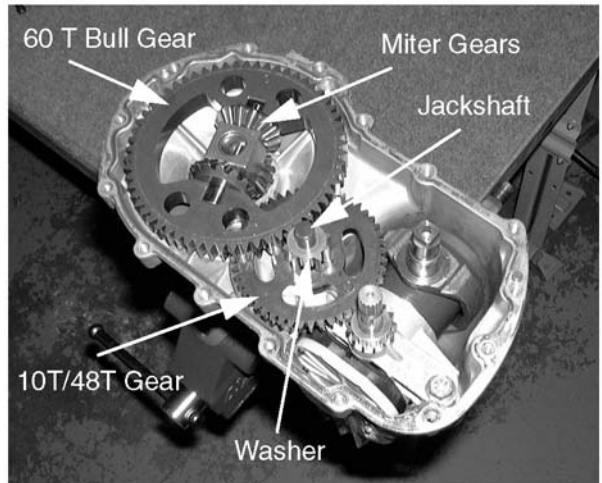

Figure 6-59.
17. Remove the 60T bull gear. See Figure 6-59.